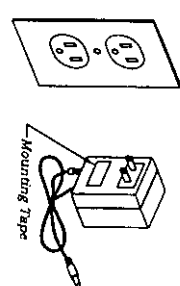

Figure 4-2
- \* REMOVE adhesive backing from mounting tape on transformer, and plug in the transformer. (Figure 4-2)